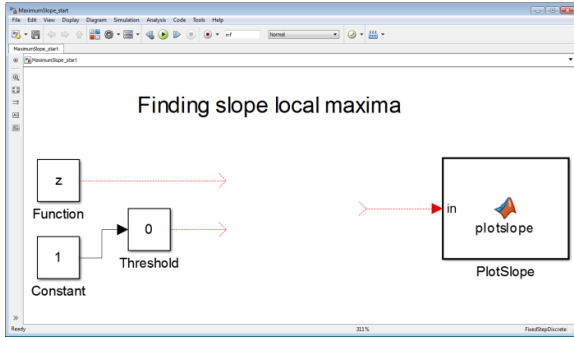

Figure 31: Starting model for slope local maxima
1. Open the **MaximumSlope_start.slx** by double-clicking on the file in the *Current Directory* browser (**Figure 31**). Note that this model uses model callback functions to set variable *z* and initialise the figures. This is a common way to initialise data in a Simulink model.